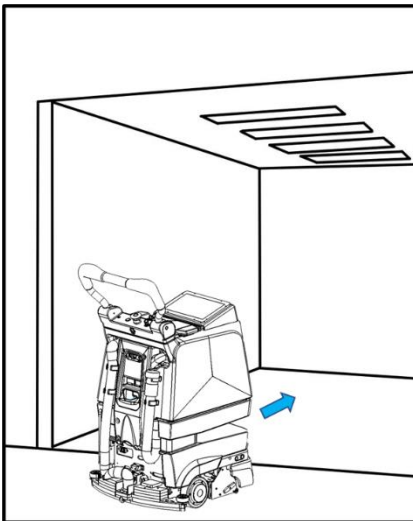

Fig. 3
- Moving the R3 SCRUB into lifts: reverse in, as the smaller front wheel can get stuck (Fig. 3).